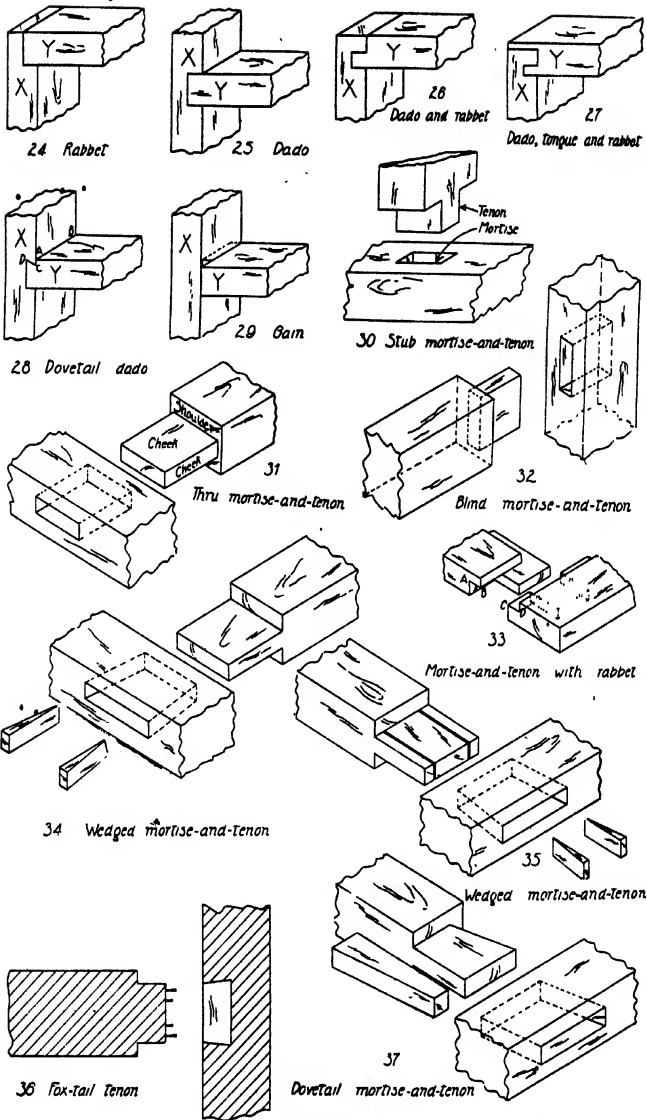
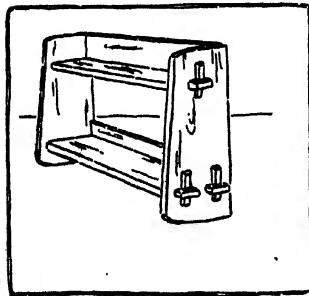

Fig. 266.
Fig. 277. Wall Book-Case.
*Wall book-shelves*, Fig. 277, *plate-racks*, etc., are simply compound brackets. The shelf is the essential piece, the sides take the place of the supports, and the back is often reduced to strips merely wide enough to give rigidity.
The shelves may be either gained into the supports, Fig. 266, No. 28 or No. 29, p. 179, or a keyed mortise-and-tenon may be used, Fig. 277. In the latter case the back strip may have a short barefaced blind tenon which is mortised into
The rabbet or ledge joint, Fig. 266, No. 24, p. 179, is both strong and neat. It can be glued and also nailed if desired.
The rabbet and dado joint, Fig. 266, No. 26, can be glued without nails and is good for small boxes.
The housed dado, Fig. 266, No. 25, is good for water-tight boxes.